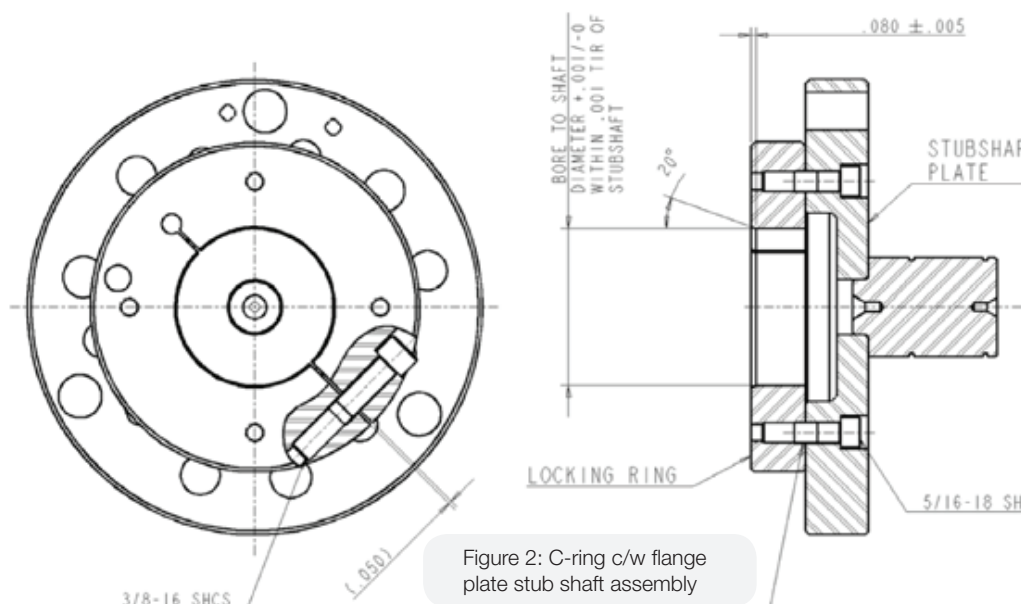

Figure 2: C-ring c/w flange plate stub shaft assembly
2. Cut the 0.050 inch wide slot as shown in Figure 2. A standard band saw can be used. Saw must follow path shown in figure 2 and stop at drilled hole opposite of 3/8” bolt.
3. Attach the finished C-Ring to the Stub Shaft with the (4) 5/16-18 SHCS finger tight.